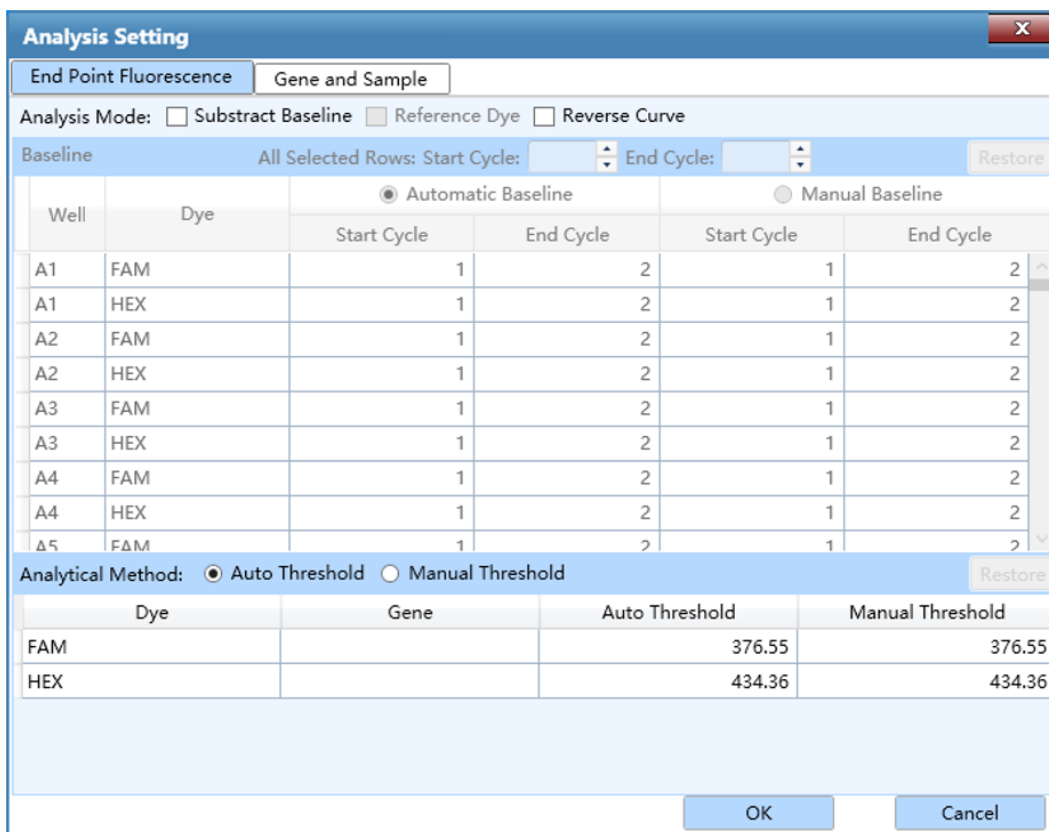

Figure D-19. End Point Fluorescence Analysis Setting Interface - End Point Fluorescence Tab
I. **End Point Fluorescence** tab: as shown in figure D-19.